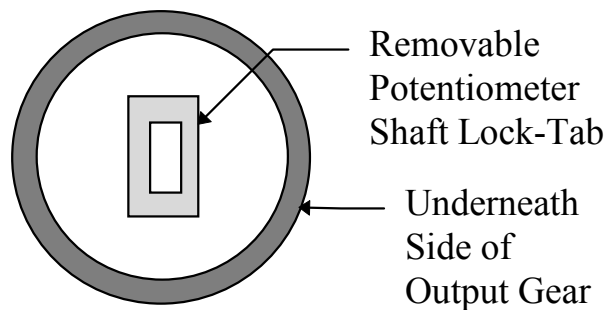

Figure 9 Illustration of the potentiometer shaft lock-tab inside the output gear.
4. a) Take the potentiometer lock-tab out of the output gear (Figure 9) so it will not turn the potentiometer shaft, or